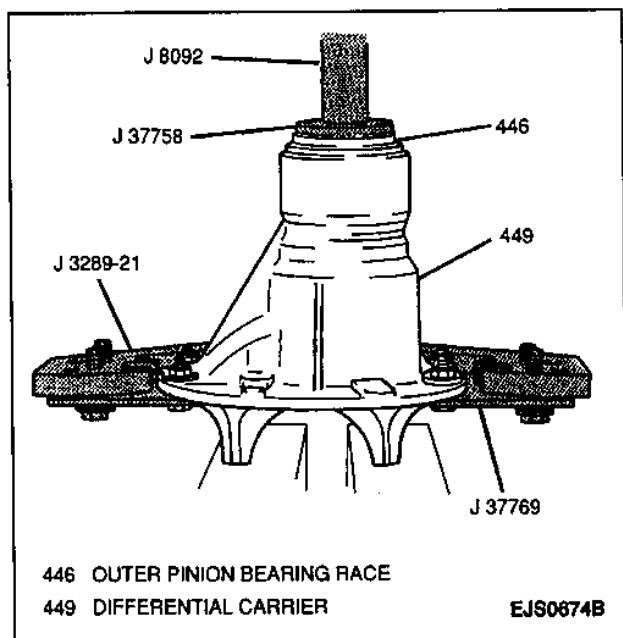

Figure 67—Installing Outer Pinion Bearing Race
10. Outer pinion bearing race using a J 37758 with a J 8092 (Figure 67). Place the differential carrier on a hydraulic press and position the outer pinion bearing race over its bore. Then, using the J 37758 with the J 8092, slowly press the outer pinion bearing race evenly into the differential carrier.